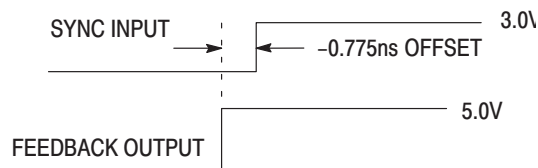

Figure 2. Depiction of the Fixed SYNC to Feedback Offset (t_{PD}) Which is Present When a 1MΩ Resistor is Tied to V_{CC} or Ground
4. A 1MΩ resistor tied to either Analog V_{CC} or Analog GND as shown in Figure 2 is required to ensure no jitter is present on the MC88915T outputs. This technique causes a phase offset between the SYNC input and the output connected to the FEEDBACK input, measured at the input pins. The t_{PD} spec describes how this offset varies with process, temperature, and voltage. The specs were arrived at by measuring the phase relationship for the 14 lots described in note 1 while the part was in phase-locked operation. The actual measurements were made with a 10MHz SYNC input (1.0ns edge rate from 0.8V – 2.0V) with the Q/2 output fed back. The phase measurements were made at 1.5V. The Q/2 output was terminated at the FEEDBACK input with 100Ω to V_{CC} and 100Ω to ground.